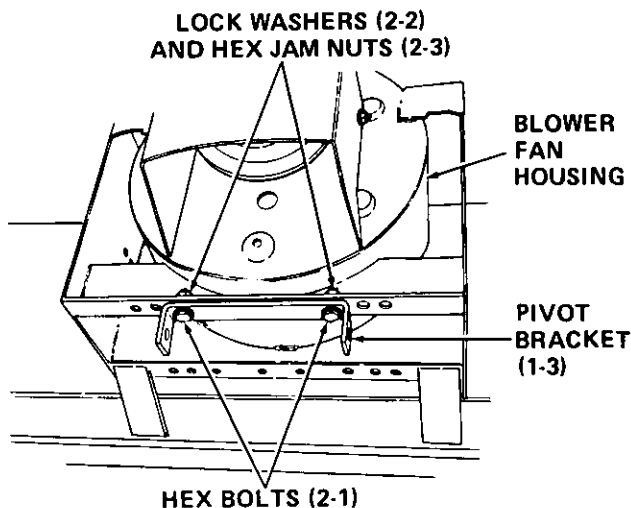

Figure 7
2. Mount pivot bracket (1-3) to bottom of blower fan housing on snow thrower as follows. Refer to Figure 7.
- b. Secure pivot bracket to bottom of blower fan housing with hex bolts (2-1), lock washers (2-2) and hex jam nuts (2-3). Heads of bolts are to bottom of housing. Use center holes as shown in Figure 7.